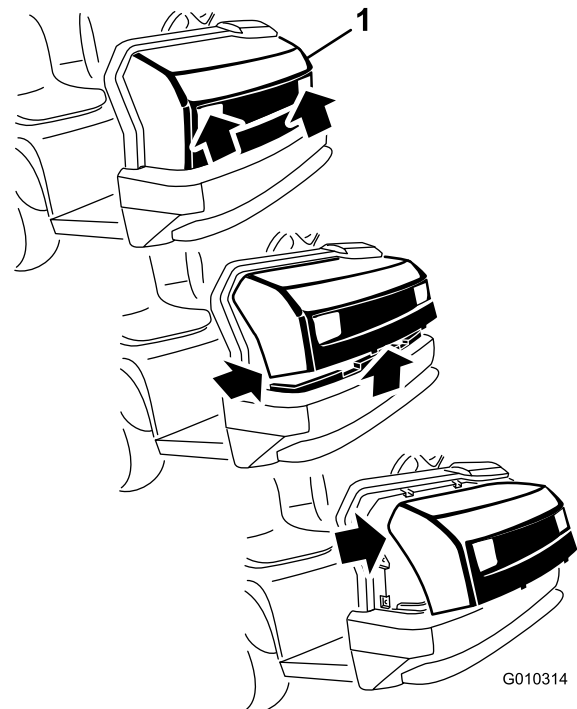

Figure 25
1. While grasping the hood in the headlight openings, lift up the hood to release the lower mounting tabs from the frame slots (Figure 25).
2. Pivot the bottom of the hood upward until you can pull the top mounting tabs from the frame slots (Figure 25).
3. Pivot the top of the hood forward and unplug the wire connectors from the headlights (Figure 25).
2. Insert the top mounting tabs into the frame slots (Figure 25).
3. Insert the lower mounting tabs into the frame slots (Figure 25).